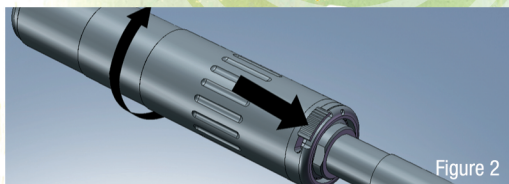

Figure 2
2) Once the silencer has reached a temperature where it can be grasped with a bare hand or a heat-resistant glove, depress the thumb latch (indicated by the arrow), and unscrew the silencer from the flash hider in the indicated direction (See Figure 2).